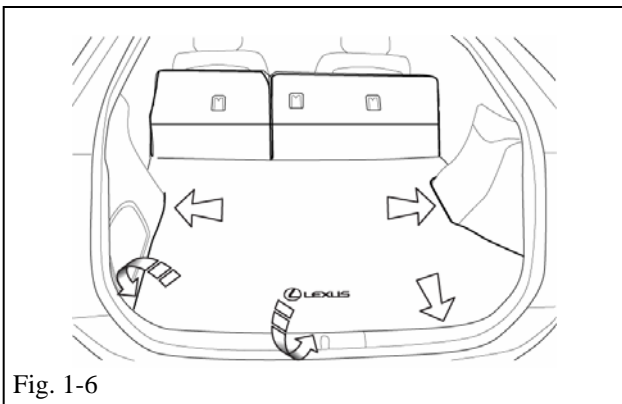

Fig. 1-6
- || (g) Smooth out and align the Cargo Liner so that the cargo area is fully protected. If you have a subwoofer, fold the material underneath the Cargo Liner on that side. The Bumper Cover material can be tucked underneath the Cargo Liner in front of the Lexus logo. (Fig 1-6)